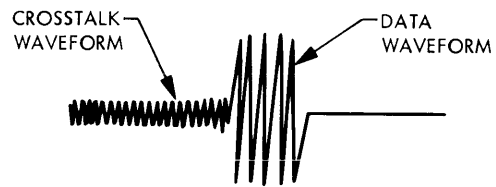

Figure 6-5. Crosstalk Waveform
- (1) Depress the ON LINE switch/indicator.
- (2) Configure the exerciser to write short record lengths in a Forward/Stop Program mode.
- (3) Place the trigger probe of an oscilloscope on the Synchronous Forward Command test point (TP12) on the Tape Control PCBA.
- (4) Using the signal probe, observe the waveforms at TP102 through TP902 on the Data PCBA.
- (5) Note the large data waveform and the smaller crosstalk waveform side by side as shown in Figure 6-5.
- (6) Observe and note the amplitude of the crosstalk waveform.
- (7) Acceptable Limits: